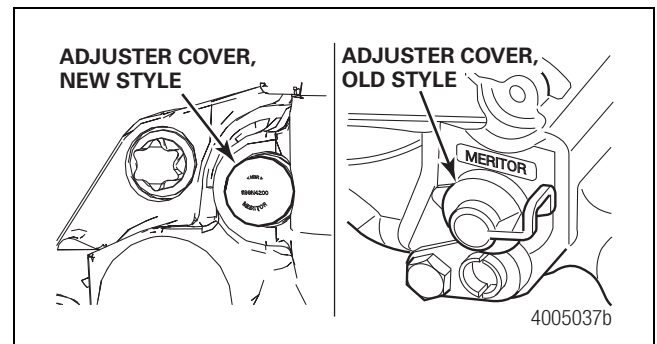

Figure 5.27
1. Remove the adjuster cover. Figure 5.27.